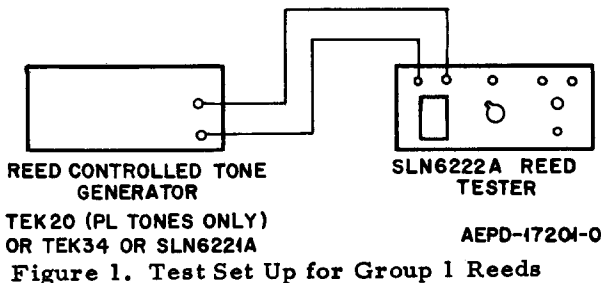
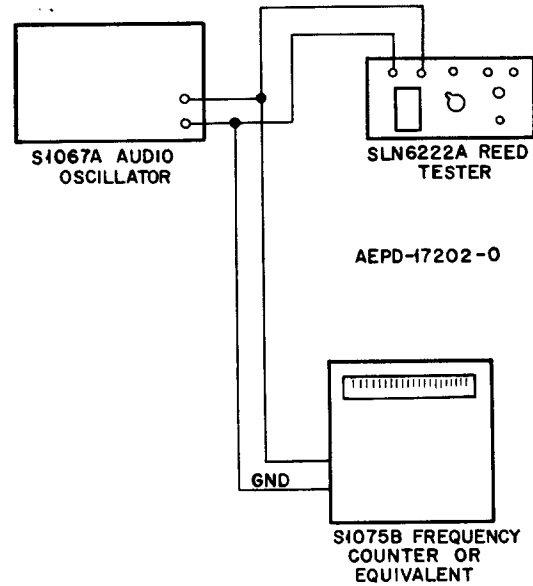

Figure 1. Test Set Up for Group 1 Reed
Figure 2. Alternate Test Set Up For Group 1 Reed
Step 2. Connect the test equipment as shown in Figure 1 or Figure 2 (alternate set up).
Step 5. Plug the "Vibrasender" resonant reed on the same frequency as the "Vibrasponder" resonant reed being tested into the tone generator (Figure 1), or set the audio oscillator (Figure 2) to that frequency by using the frequency counter set to 0.1 Hz resolution or 10 second count.